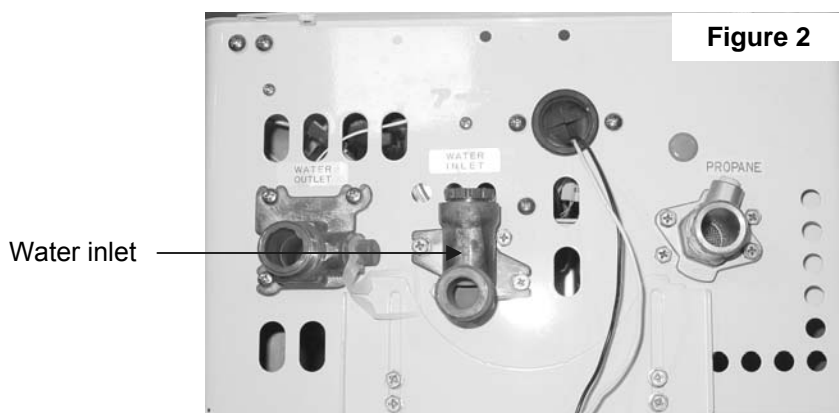

Figure 2
6. Remove the 4 screws attaching the water inlet to the underneath side of the water heater. (Figure 2).